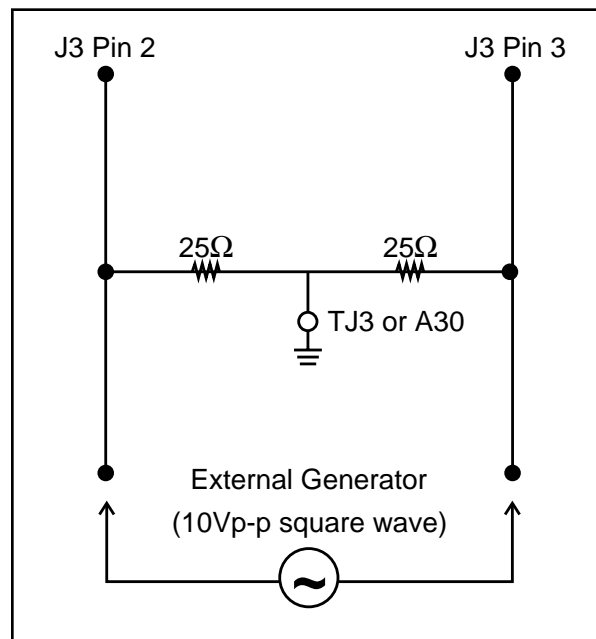

Figure 14-1. Additional Circuitry at Test Jack (TJ3).
- With the additional circuitry, as shown in Figure 14-1, one 10 Vp-p square wave signal may be used.